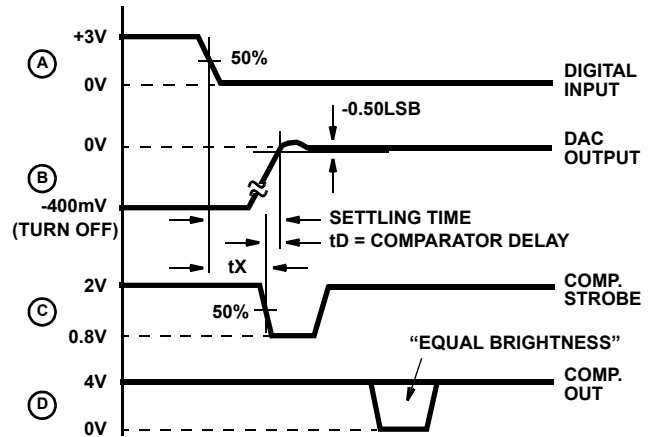

FIGURE 4B.
As shown in Figure 4B, settling time equals tX plus the comparator delay (tD = 15ns). To measure tX,
- Adjust the VLSB supply for 50% triggering at COMPARATOR OUT. This is indicated by traces of equal brightness on the oscilloscope display as shown in Figure 4B. Note DVM reading.
- Switch to LSB to Pulse (P)
- Measure tX from scope as shown in Figure 4B. Settling time equals tX + tD, i.e., tX + 15ns.